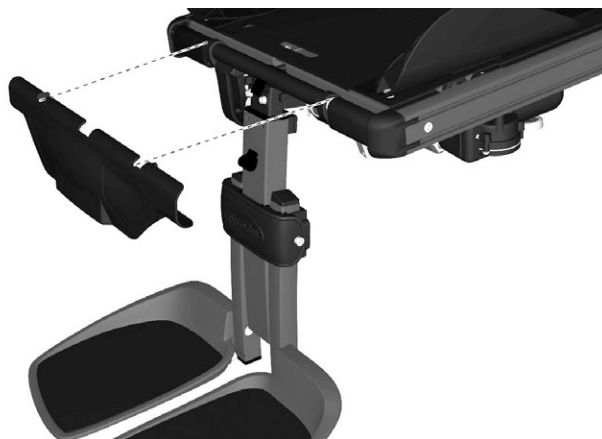

Figure 224. Assemble the legrest's top cover by carefully pressing its bracket into place on the legrest's fixing screws/spacers.
4. Assemble the legrest's top cover by carefully pressing its bracket into place on the legrest's fixing screws/spacers. See fig. 224.